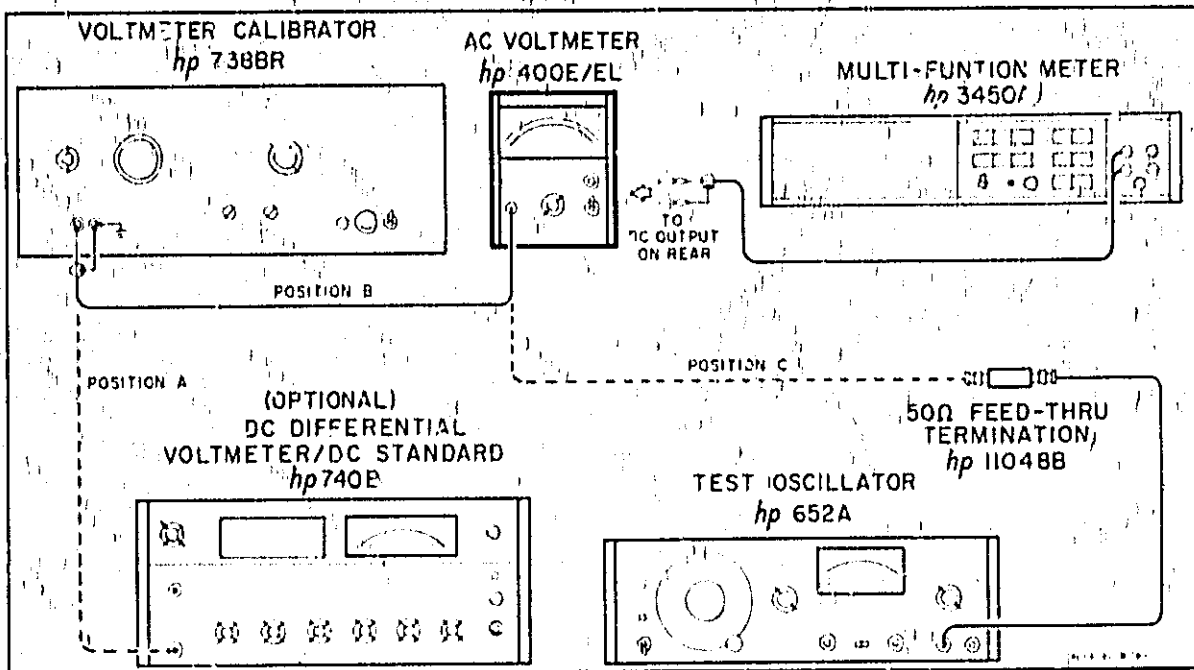

Figure 5-5. Alternate Calibration and Frequency Test Setup
a. Connect the circuit as in Figure 5-5 position A. Place the ac differential voltmeter to 300 volts (maximum sensitivity) and place the calibrator to 400Hz rms, 300 volts.
c. Connect the circuit as in Figure 5-5 position B. The 400E/EL should read 300 volts $\pm 1\%$ or ± 3 volts. The dc output should be .949 ± 0.0047 .
d. Change the calibrator and ac differential voltmeter to 100 volts. Connect as in Figure 5-5 position A. Adjust the AC INTERNAL CALIBRATION for an exact reading on the differential voltmeter.
- i. Connect the circuit as in Figure 5-5 position C.
- n. Repeat steps h thru m for descending ranges at full scale and 1/3 full scale using the appropriate tables for tolerances. Below 50mV do not use Figure 5-5 position A as the calibrator is more accurate than the differential voltmeter at these low voltages.